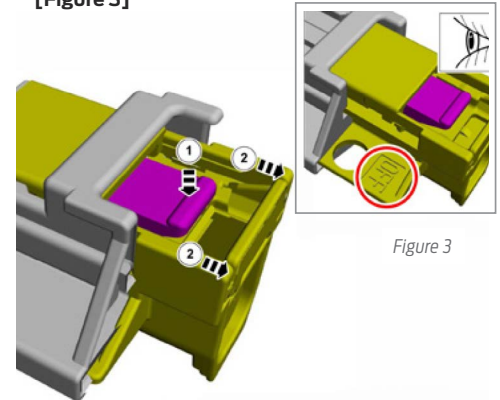

Figure 3
4. Press the tab while pulling the connector until the hole is completely visible on the top of the connector. Pull the upper part upwards until the OFF writing is visible. It is not possible to remove the sliding part of the header. [Figure 3]